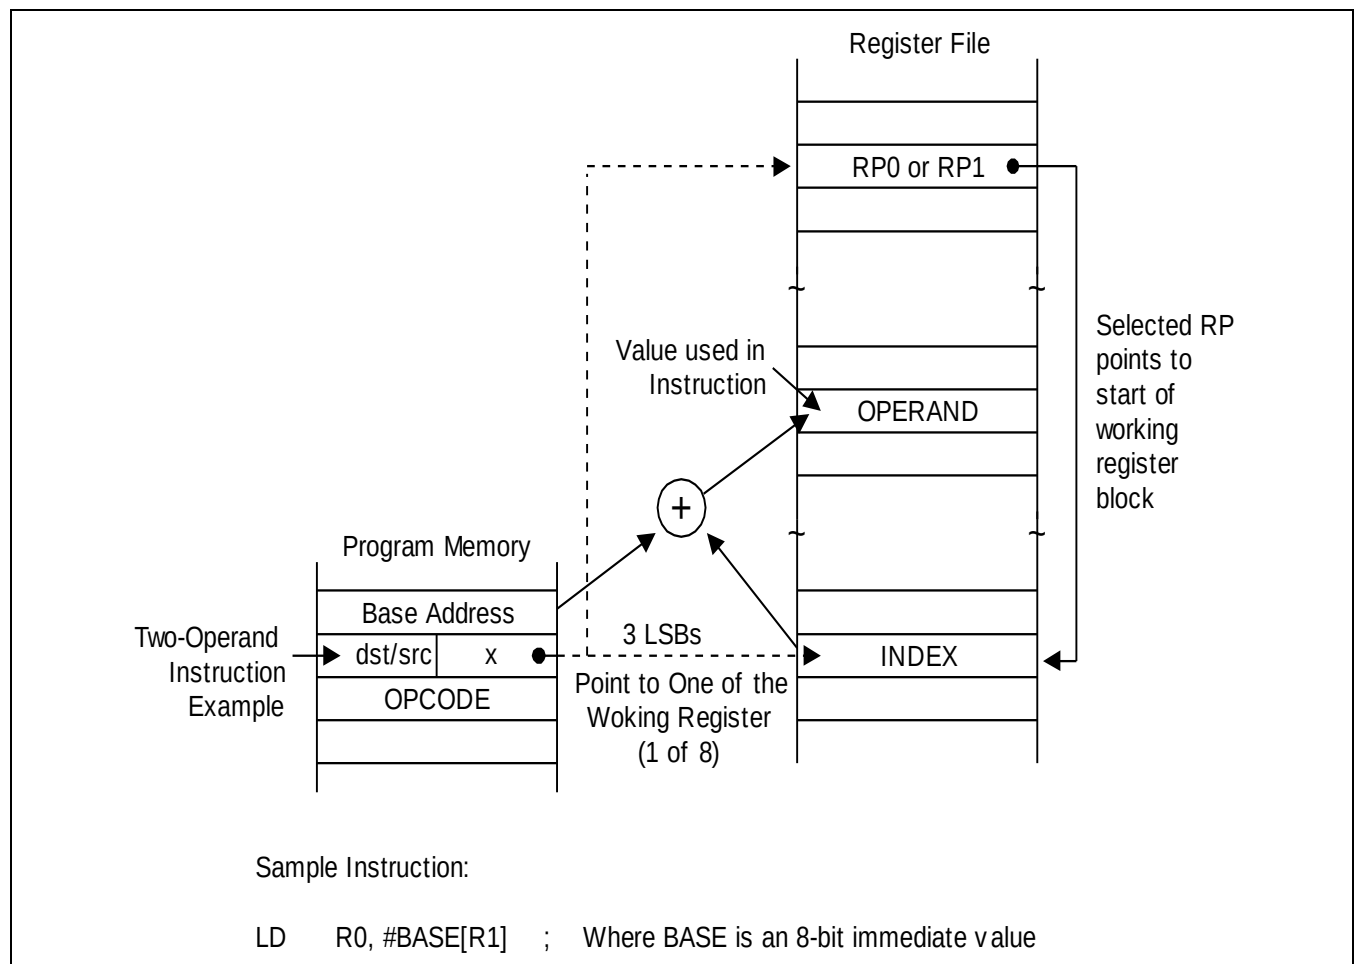

Figure 3-7 Indexed Addressing to Register File
3.4 Indexed Addressing Mode (X)
Indexed (X) addressing mode adds an offset value to a base address during instruction execution in order to calculate the effective operand address (see Figure 3-7). You can use Indexed addressing mode to access locations in the internal register file or in external memory. Please note, however, that you cannot access locations C0H–FFH in set 1 using indexed addressing mode.